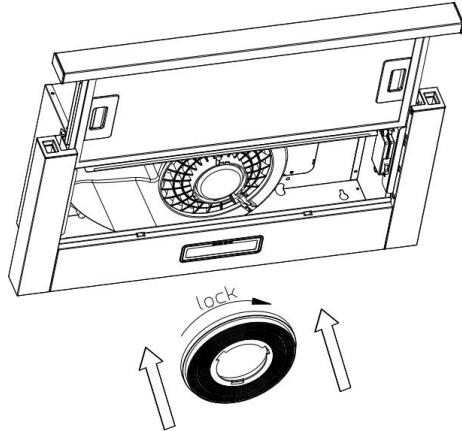

Fig. 18
2. Plug the activated carbon filter into the unit and turn it in clockwise direction. Repeat the same on the other side. (see Fig. 18)